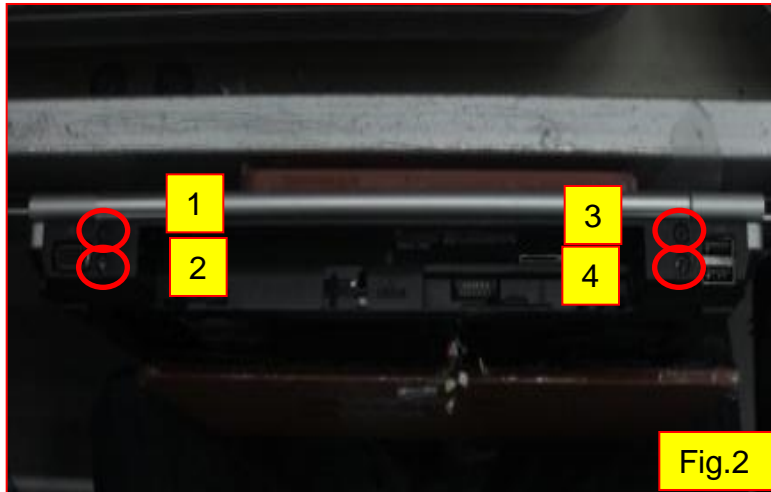

Fig.2
2. Loosen hinge screw (6052B0155201) * 4. (Fig.2)